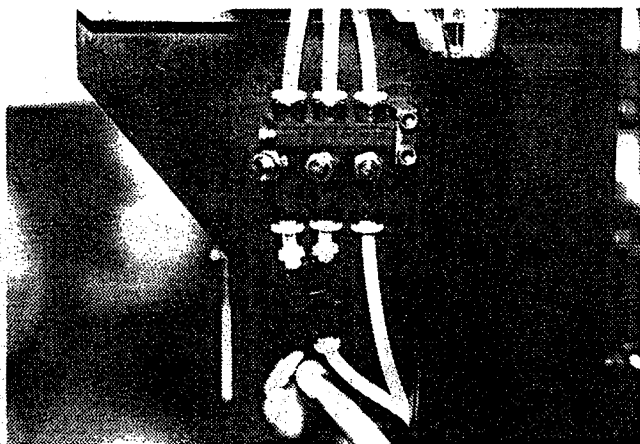

Fig. 10
6. ADJUSTING AIR BLOWER PRESSURE (Fig.10)